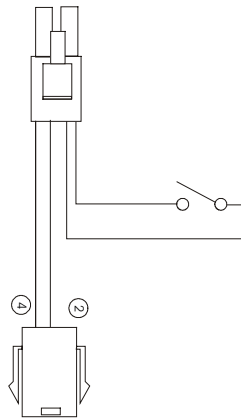

Figure 1 " Pump Control Wiring harness "
- Insert the pump connector (1) into the appropriate connector of the “ Pump Control Wiring harness” (Figure 1);